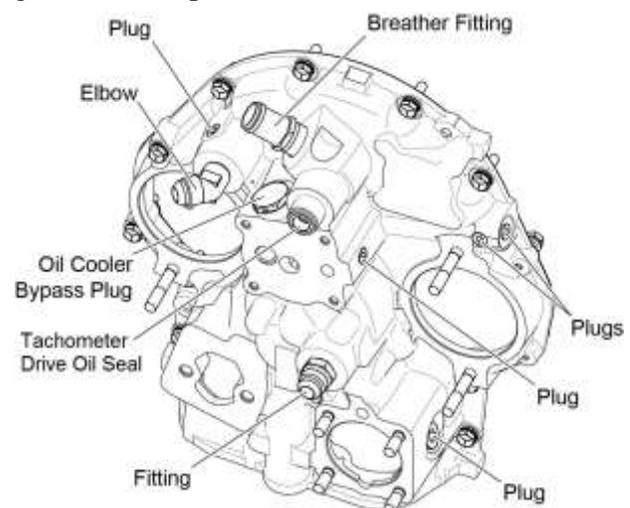

Figure 7
- E. Install plugs in the accessory housing (Figure 7) with a new O-ring as required.